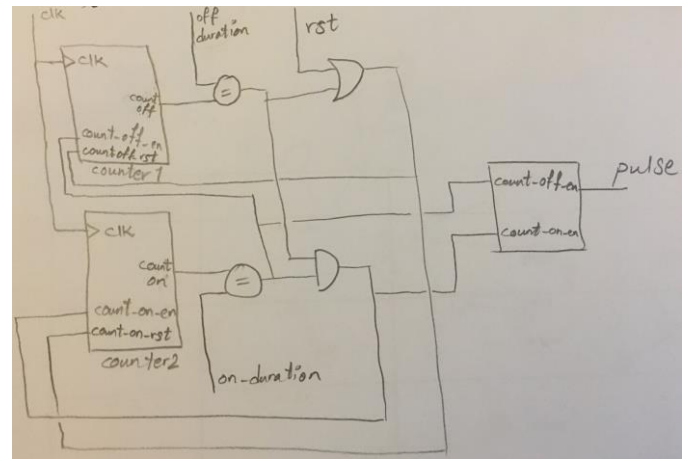

Fig. 2 Timer code block diagram
2. Block diagram is shown in figure 2 and the explanation is done in the section above.